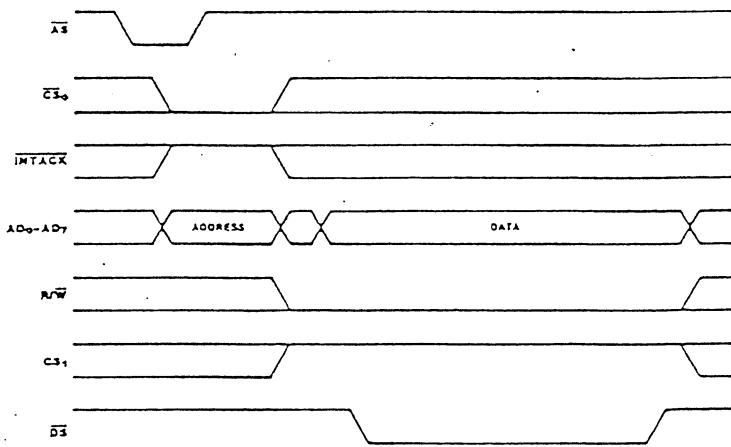

Figure 16. Write Cycle Timing
**Write Cycle Timing.** Figure 16 illustrates Write cycle timing. The address on  $AD_0-AD_7$  and the state of  $\overline{CS}_0$  and  $\overline{INTACK}$  are latched by the rising edge of  $AS$ .  $R/W$  must be Low to